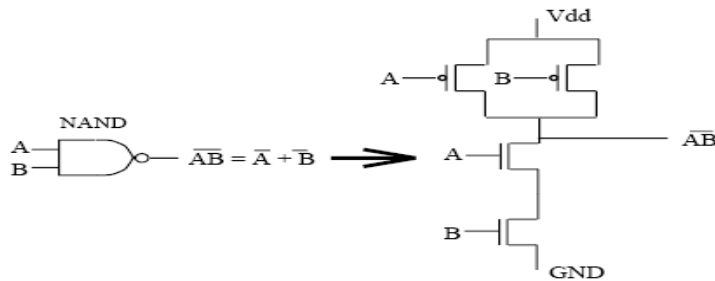

Fig. 1: CMOS realization of a 2-i/p NAND gate
- Example: For the 2 i/p NAND gate in Fig. 1, $R_{top} = R$ (note that in the worst-case only 1 pMOS transistor is on, so the res. then is R , and *not* $R/2$), $R_{bot} = 2R$. Thus $R_g = 2R$, and the gate’s output delay = $R_g \cdot C_L = 2R \cdot C_L$. If the gate is driving a 2-input NAND/NOR/AND/OR gate, then $C_L = 2C$.